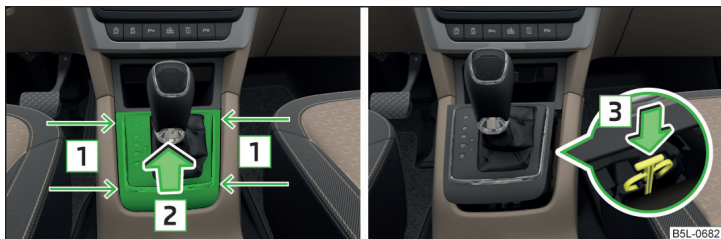

Fig. 188 Remove / release the selector lever
- » Fig. 188 and lift the cover in arrow direction **2**.